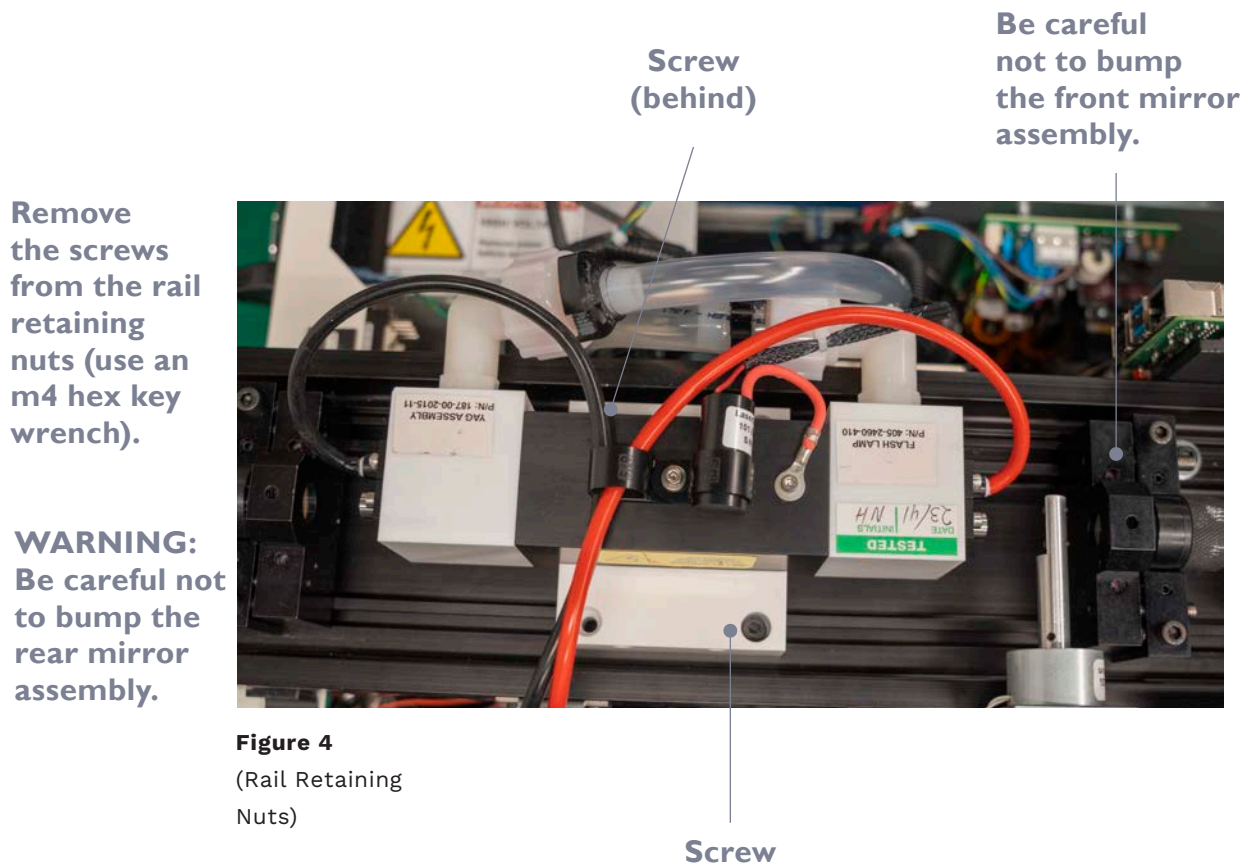

Figure 4
8. Remove the two (2) screws securing the pump chamber assembly to the rail **(figure 4)**.